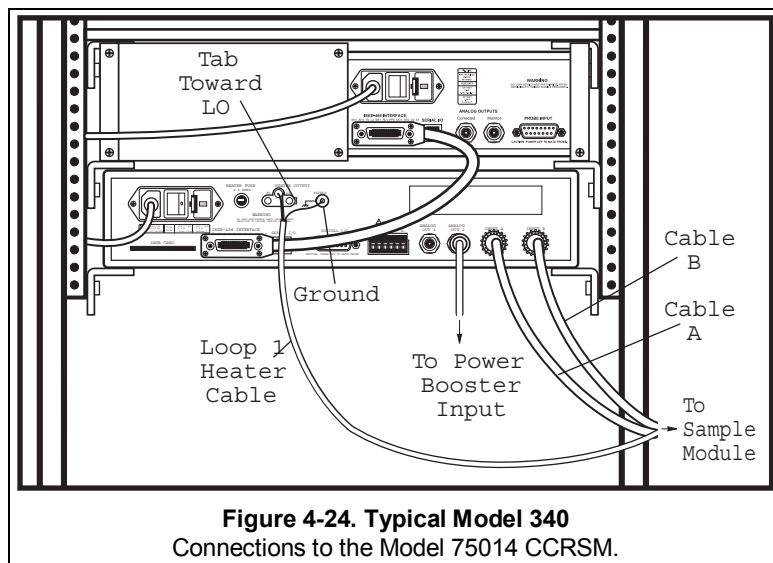

Figure 4-24. Typical Model 340 Connections to the Model 75014 CCRSM.
1. Connect all cables listed in Table 4-14 (see Figure 4-24).